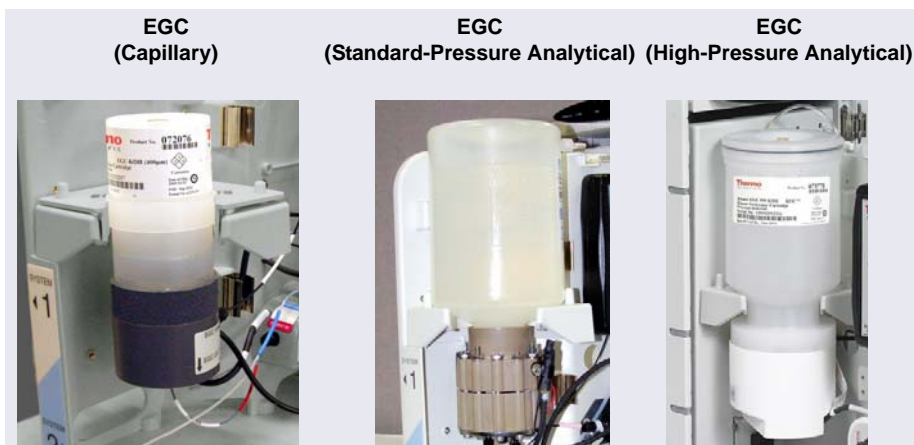

Figure 3-3. Dionex EGC Installed in Holder
5. Orient the Dionex EGC with the electrolyte reservoir on top and slide it down into the holder (see Figure 3-3). Install the Dionex EGC on the left side for system 1 and the right side for system 2.